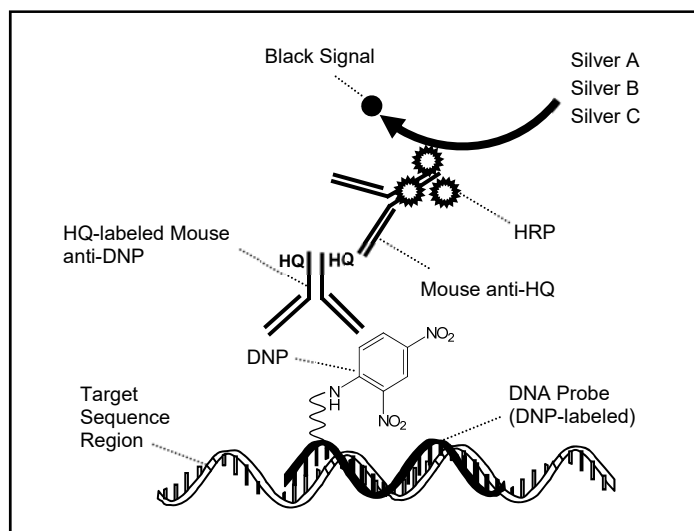

Figure 1. VENTANA Silver ISH DNP Detection
VENTANA Silver ISH DNP Detection Kit detects DNP-labeled probes bound to a specific sequence in formalin-fixed, paraffin-embedded (FFPE) tissue sections. The detection kit contains a primary antibody and an enzyme-labeled secondary antibody conjugated to horseradish peroxidase (HRP) which is used as the chromogenic enzyme. During the ISH staining process, DNP probes are co-hybridized to their respective specific target DNA sequences within the cell nuclei. VENTANA Silver ISH (SISH) DNP Detection Kit contains the following dispensers: mouse anti-DNP primary antibody labeled with hydroxyquinoline (HQ), mouse anti-HQ secondary antibody conjugated to horseradish peroxidase (HRP), Chromogen A (Silver A), Chromogen B (Silver B) and Chromogen C (Silver C). Following incubation with the HQ-labeled mouse anti-DNP primary antibody and then mouse anti-HQ HRP secondary antibody conjugate, the SISH reaction occurs. Briefly described, this reaction is driven by the sequential addition of Chromogens A (silver acetate), B (hydroquinone) and C ( $\text{H}_2\text{O}_2$ ). Here, the silver ions ( $\text{Ag}^+$ ) are reduced by hydroquinone to metallic silver atoms ( $\text{Ag}^0$ ). This reaction is fueled by the substrate for HRP, hydrogen peroxide (Chromogen C). Figure 1 illustrates the SISH reaction. The specimen is then counterstained with Hematoxylin II for interpretation by light microscopy. The staining protocol consists of numerous steps in which reagents are incubated for pre-determined times at specific temperatures. At the end of each incubation step, the BenchMark IHC/ISH instrument washes the sections to remove unbound material and applies a liquid coverslip which minimizes the evaporation of the aqueous reagents from the slide. Results are interpreted using a light microscope and aid in the differential diagnosis of pathophysiological processes, which may or may not be associated with positive staining for the probe.